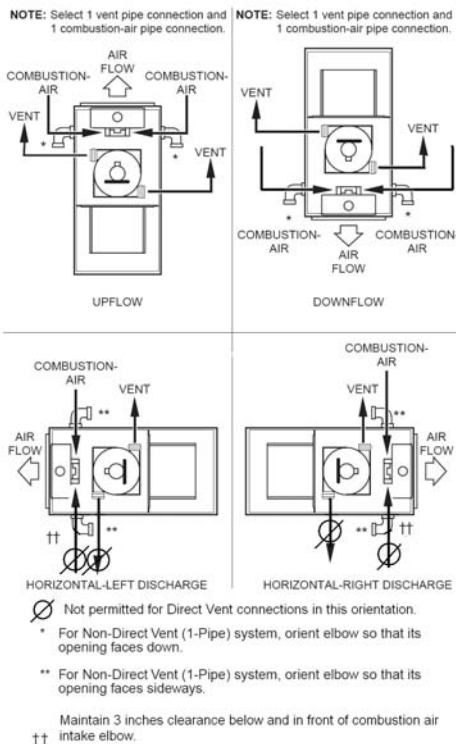

Fig. 38 - Combustion-Air and Vent Pipe Connections
Furnace combustion-air connection must be attached as shown in Fig. 38. Combustion-air intake housing plug may need to be relocated in some applications.
For Non-Direct Vent (1-Pipe) system, combustion-air must terminate outside of furnace casing with 1 elbow. Orient elbow so that its opening faces down for upflow or downflow applications. Orient elbow so that its opening faces sideways (left or right) for horizontal left or horizontal right applications (See Fig. 38.) Maintain a 3-in minimum clearance between the opening of the combustion-air inlet pipe and any object.
1. Determine location of combustion air intake pipe connection to combustion air intake housing as shown in Fig. 38 for application.